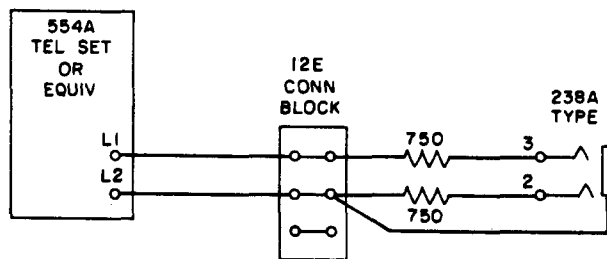

Fig. 1 - Test Station
2.01 One No. 554A wall-type telephone set, two 750-ohm, 1-watt resistors, one No. 238A jack, and one No. 12E connecting block, or equivalent, assembled as shown in Fig. 1 and mounted on a board convenient for locating at the relay rack frame of the equipment.